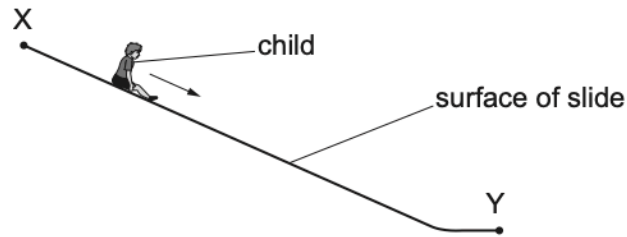

Fig. 4.1 (not to scale)
- 16 A child moves down a long slide, as shown in Fig. 4.1.